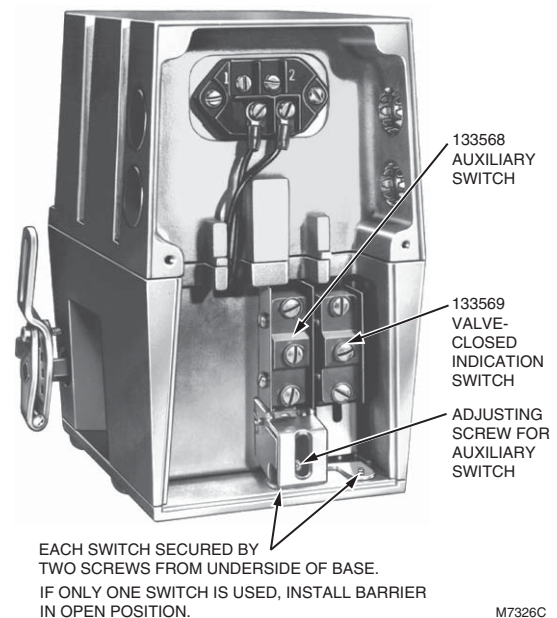

Fig. 2. V4055 Actuator with cover removed.
3. Insert the Auxiliary Switch in the position indicated in Fig. 2. Fasten with two screws through the actuator base.
4. Insert the Proof-of-Closure Switch in the position shown in Fig. 2. The switch mounts against the side of the actuator housing. The mounting holes are spaced to assure
The Auxiliary Switch is adjustable throughout the stroke of the actuator. With the switch installed in the actuator, turn the adjusting screw (see Fig. 2) clockwise to cause the switch to operate earlier in the stroke or counter-clockwise to cause the switch to operate later in the stroke.